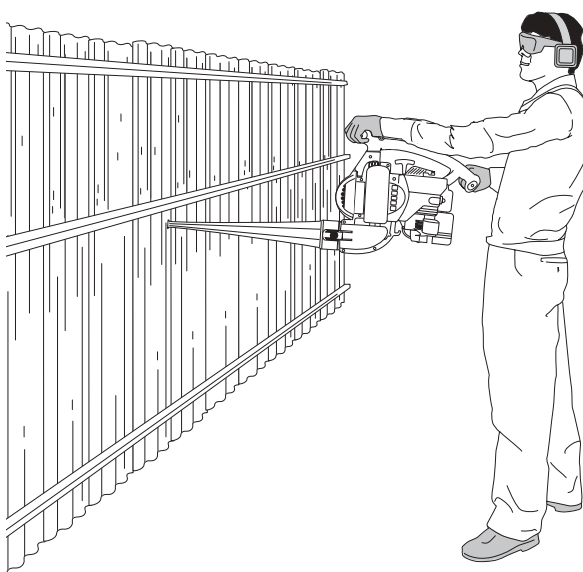

Fig. 15
3. Use the blower around walls, overhangs, fences and screens (Fig. 15).